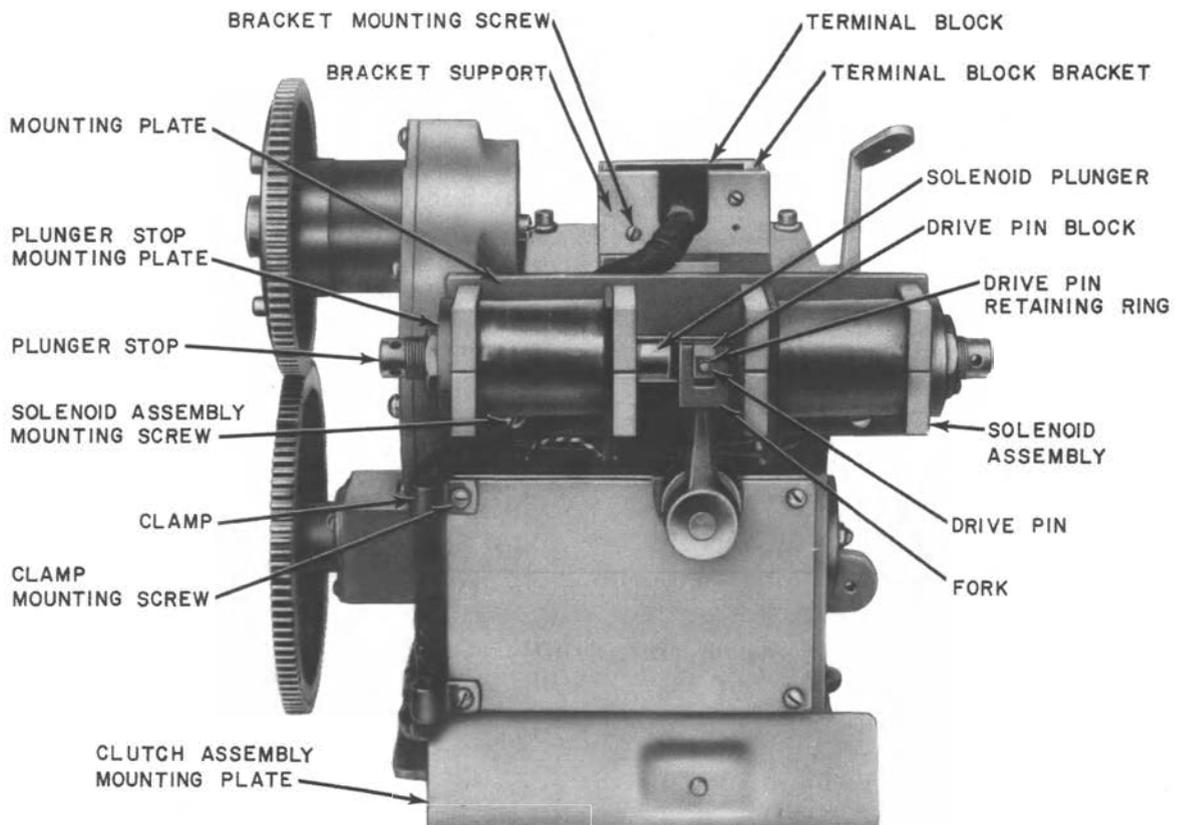

Fig. 33—KS-13906 Clutch Drive Assembly (Rear View of Later Model)
3.24 Solenoid Assembly: To replace the solenoid assembly (Fig. 33), proceed as follows.
- (1) Remove the clutch drive assembly in accordance with 3.22 and 3.23.
- (2) Tag and unsolder the leads from the solenoid coil terminals.
- (3) If the cable from the terminal block is routed, as shown in Fig. 33, proceed to (a); or if the cable is routed between the solenoid plunger and the mounting plate, proceed to (b).
(a) Terminal Block Cable as Shown in Fig. 33
- (7) Remove the plunger from the solenoid assembly.
- (8) Remove the solenoid assembly from the clutch drive.
- (9) If necessary to obtain sufficient slack in the cable, remove the cable clamps.
- (10) Mount the drive pin, blocks, and retaining ring on the replacement solenoid assembly.
- (11) Remount the cable assembly as required.
- (12) Route the cable as shown in Fig. 33 and mount the replacement solenoid securely on the clutch drive unit.
- (13) Connect the leads to the coil terminals.
- (14) Check that the clutch drive unit is lubricated and adjusted in accordance with Section 034-305-701.
- (15) Mount the unit in the perforator.
- (16) Reassemble the drive chains in accordance with 3.20 and 3.21.
- (1) Remove the solenoid assembly mounting screws using the 4-inch E screwdriver.
- (2) Lift the solenoid assembly upward and disengage the drive pin block from the forked arm.
- (3) Remove the assembly from the free end of the cable.
- (4) Remove the drive pin retaining ring and block from one end of the drive pin using the KS-8511 tweezers.
- (5) Slide the drive pin out through the hole in the solenoid plunger.
- (6) Reassemble the drive pin, block, and retainer ring on the replacement solenoid assembly.
- (7) Route the cable as shown in Fig. 33 and mount the replacement solenoid securely on the clutch drive unit.
- (8) Connect the leads to the coil terminals.
- (9) Check that the clutch drive unit is lubricated and adjusted in accordance with Section 034-305-701.
- (10) Mount the unit in the perforator.
- (11) Reassemble the drive chains in accordance with 3.20 and 3.21.